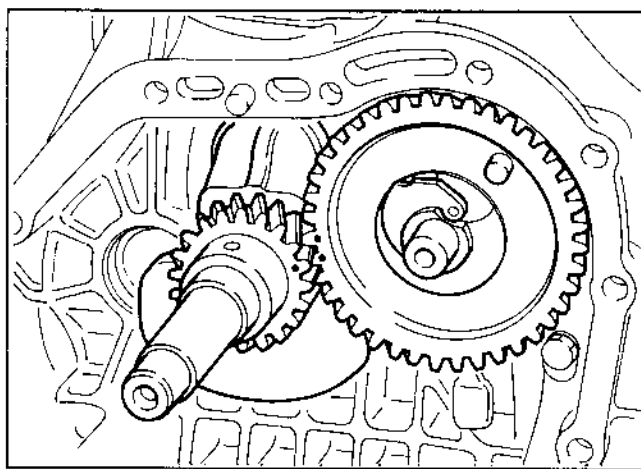

FIG. 48
- (2) Install the camshaft into the crankcase matching the timing marks on the crank gear and cam gear. (See Fig.48.)